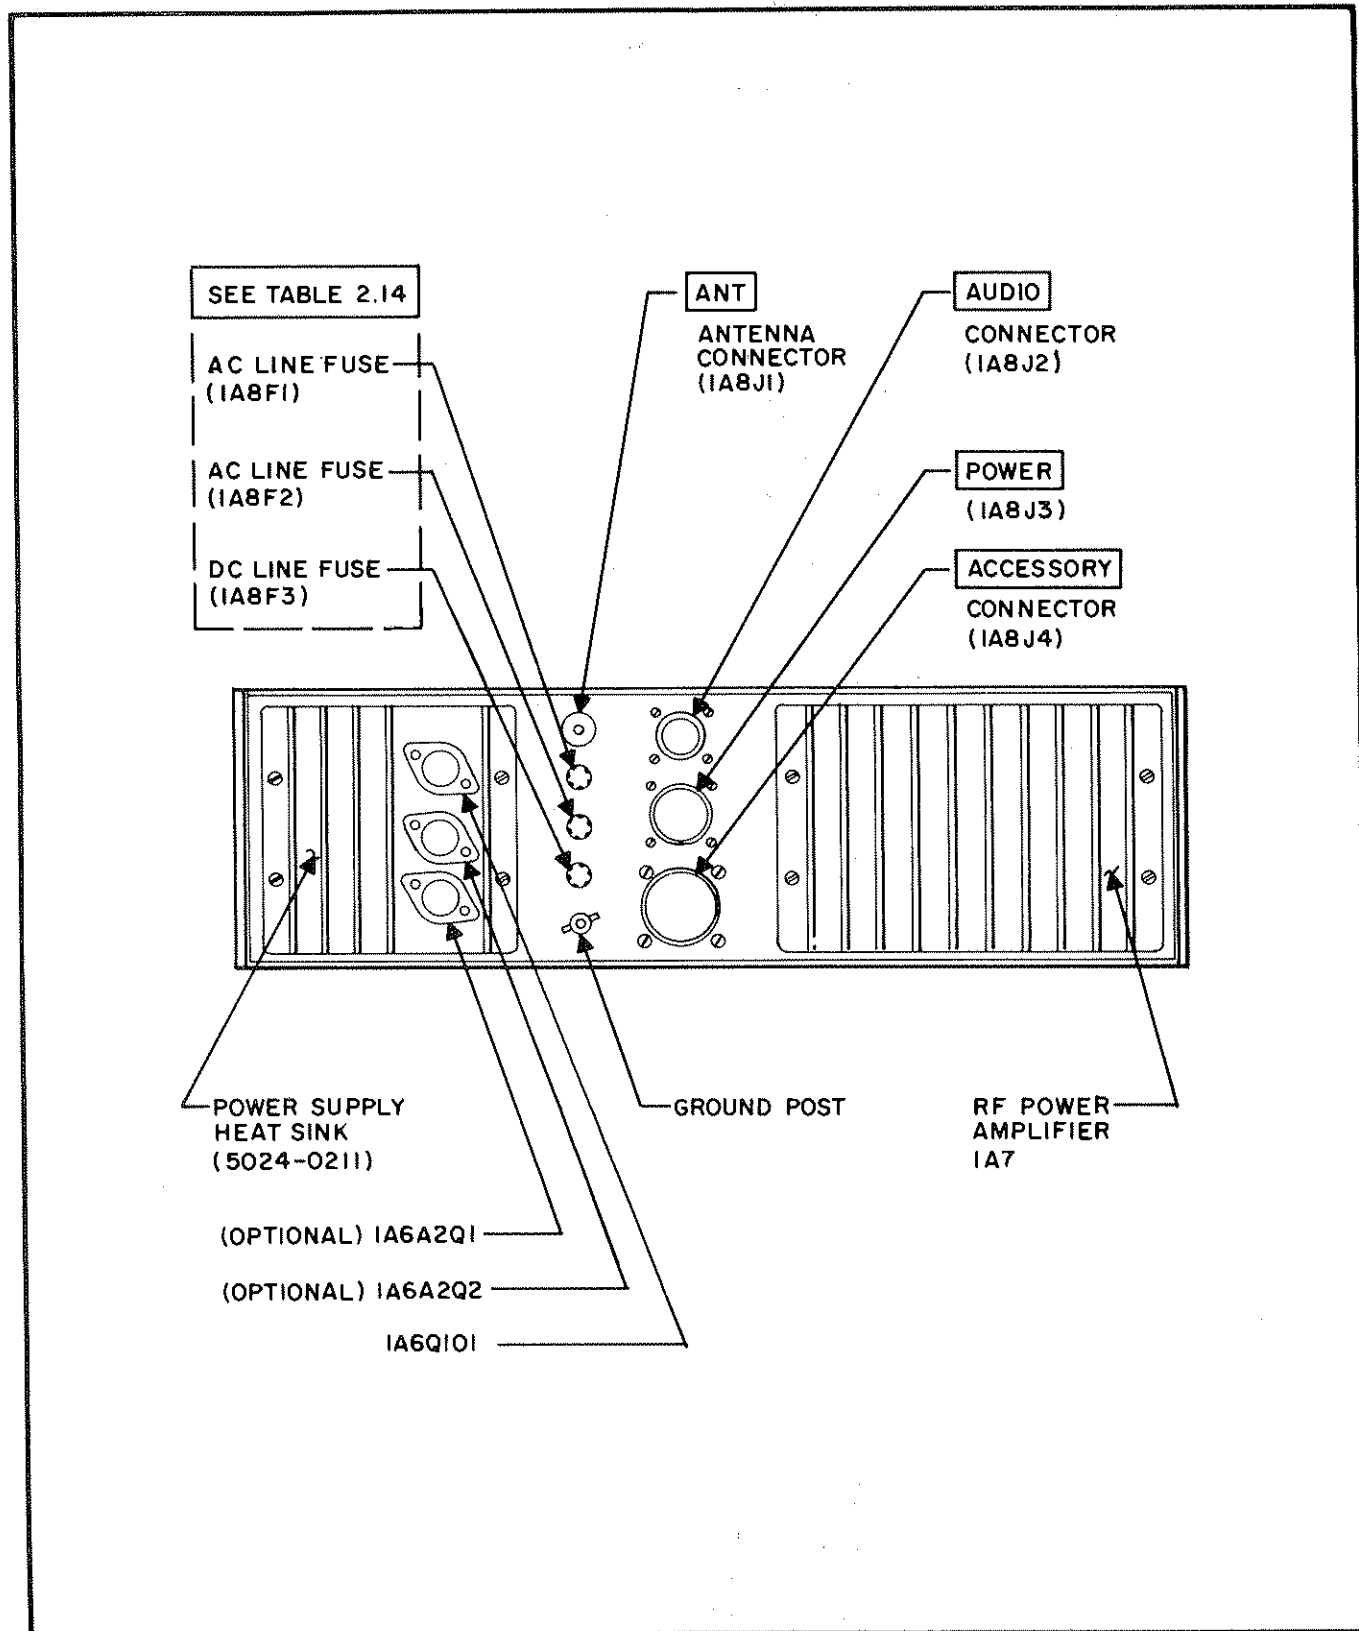

Figure 3.3 GSB-900R Rear Apron Components and Connectors
3.3.1 Refer to Figure 3.3 for location.